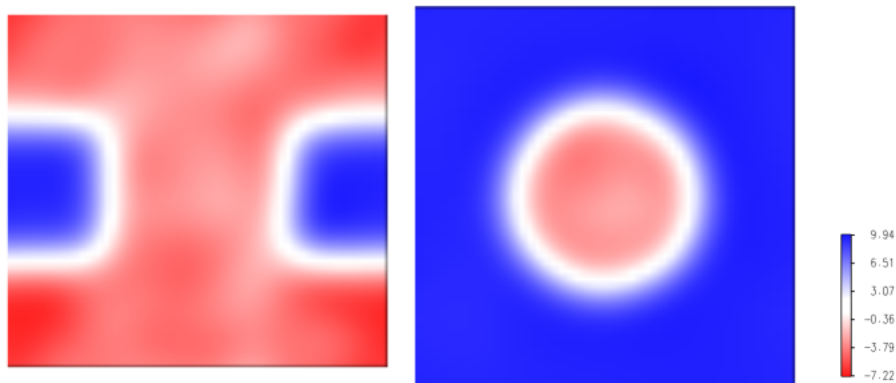

Figure 3: Electrostatic potential as determined by the VMD PMEpot plugin.
- 3 Rotate your molecule, you should be able to see something similar to what is shown in Fig. 3.